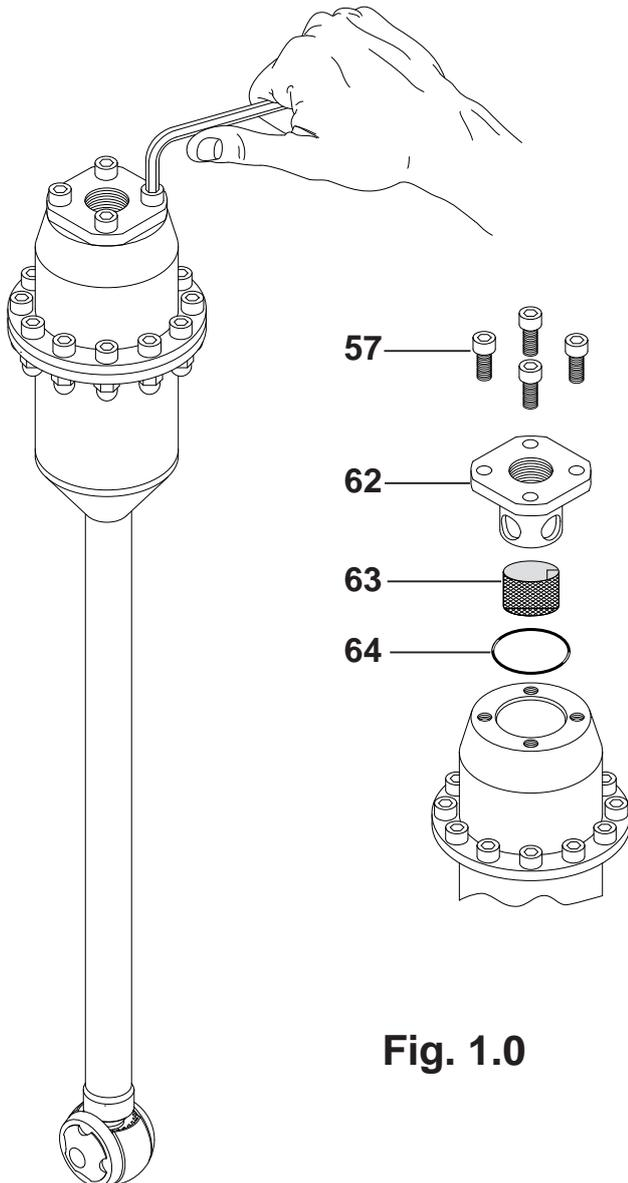

Fig. 1.0
1.01) Unscrew and remove the screws **pos. 57**, disassemble the filter holder flange **pos.62** and remove the cartridge **pos.63 (Fig.1.0)**.